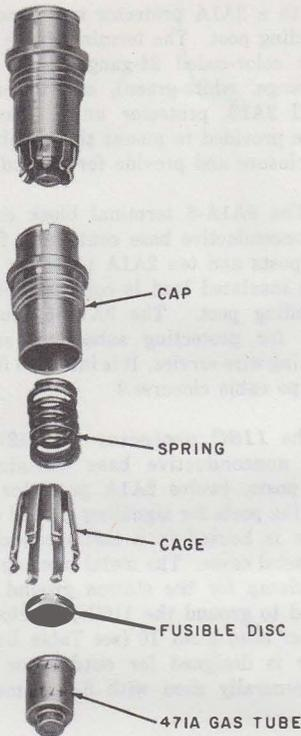

Fig. 6—11B1A Protector Unit
3.05 The **123E1A protector** (Fig. 5) provides protection for one pair of wires and is intended for use at stations served by cable or multiple wire having a high level of lightning activity. It consists of a nonconductive base containing three binding posts and two 11B1A gas tube protector units (Fig. 6). The 123E1A protector
Note: The 11B1A protector unit (Fig. 6) incorporates a 471A electron (gas) tube which provides nominal 500-volt protection. The ultimate failure mode of the 11B1A protector unit is a short circuit (to ground); therefore, it does not require the use of carbon blocks in parallel. The 471A tube is mounted in a brass cap along with a stainless steel spring, a fusible disc, and a solder tinned brass cage. These parts are arranged so that heating of the tube melts the fusible disc and allows the cage to contact the grounded surface of the station protector. This short-circuits the gas tube and provides a path to ground. During a lightning surge or short duration power surge, the 471A gas tube provides a path to ground through its internal spark gap. The 11B1A protector unit can be substituted for the 2B2A protector units in the 123A1A and 128A1A-2 protectors. Station protectors equipped with 11B1A protector units are preferred over protectors which feature gas tubes in parallel with carbon blocks (eg, 123B1A) where cable or multiple wire plant is involved. The 11B1A protector unit can be identified by a circle machined into the cap and by a dab of white paint on the cap.